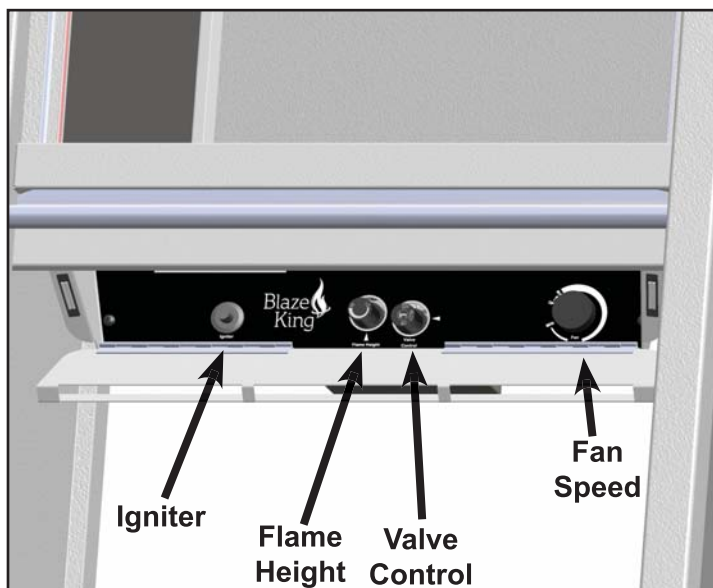

Fig.2
The CLARITY 26 FS SP controls are located behind the hinged door beneath the firebox. (**Fig.2**) To light the burner follow the steps below:
4. Turn the "Flame Height" knob to the desired flame height. (**Fig.2**)
Turn the blower on by turning the "Fan speed" knob clockwise . (**Fig.2**) The blower will only come on when the fireplace is up to temperature (approximately 10-15 minutes). Fan speed control sequence is off, then maximum to minimum. The speed of the fan can be decreased by turning the knob clockwise . The speed of the fan can be increased by turning the knob counterclockwise . The blower will continue to operate after the burner is turned off (approximately 15-20 minutes). To turn the blower off manually, turn the fan control knob counterclockwise  until it "clicks".